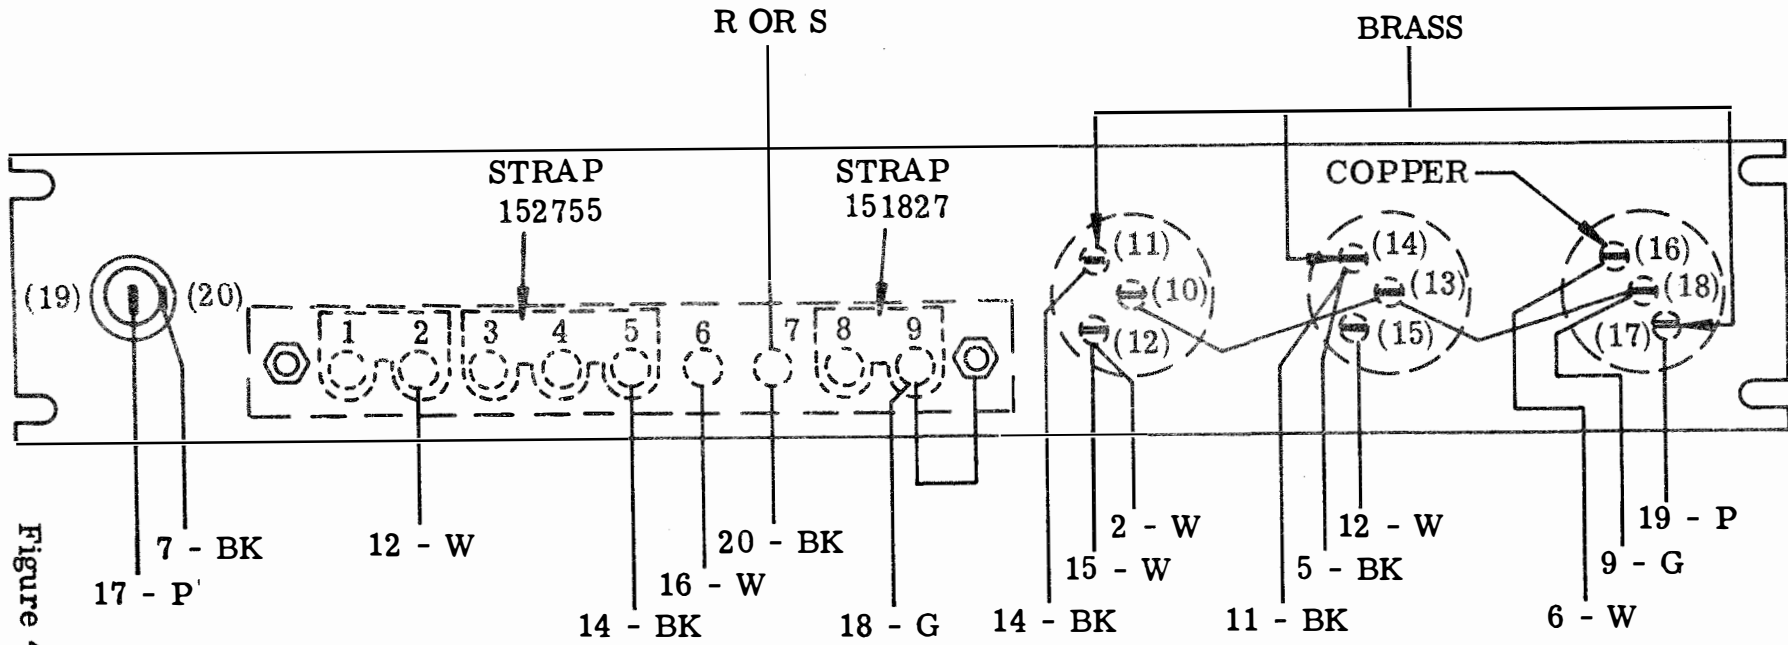

Figure 4
- (a) Move wires 20-BK and R or S (dependent on converter type) from AC-5 to AC-7. Refer to Figure 4 (new wiring) and 5969WD, Issue 3 (old wiring).
- (c) On the power connectors, remove the white strap connecting AC-(15) to AC-(16). Cut only enough cable lacing to remove this strap. Retie lacing after strap removal. Retain and secure 12-W on AC-(15) and 6-W on AC-(16).